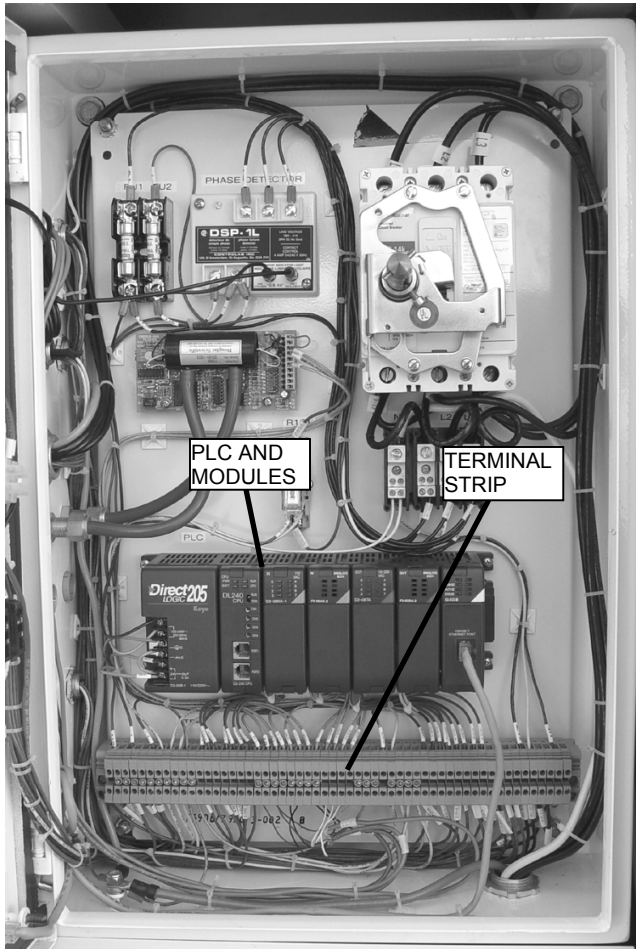
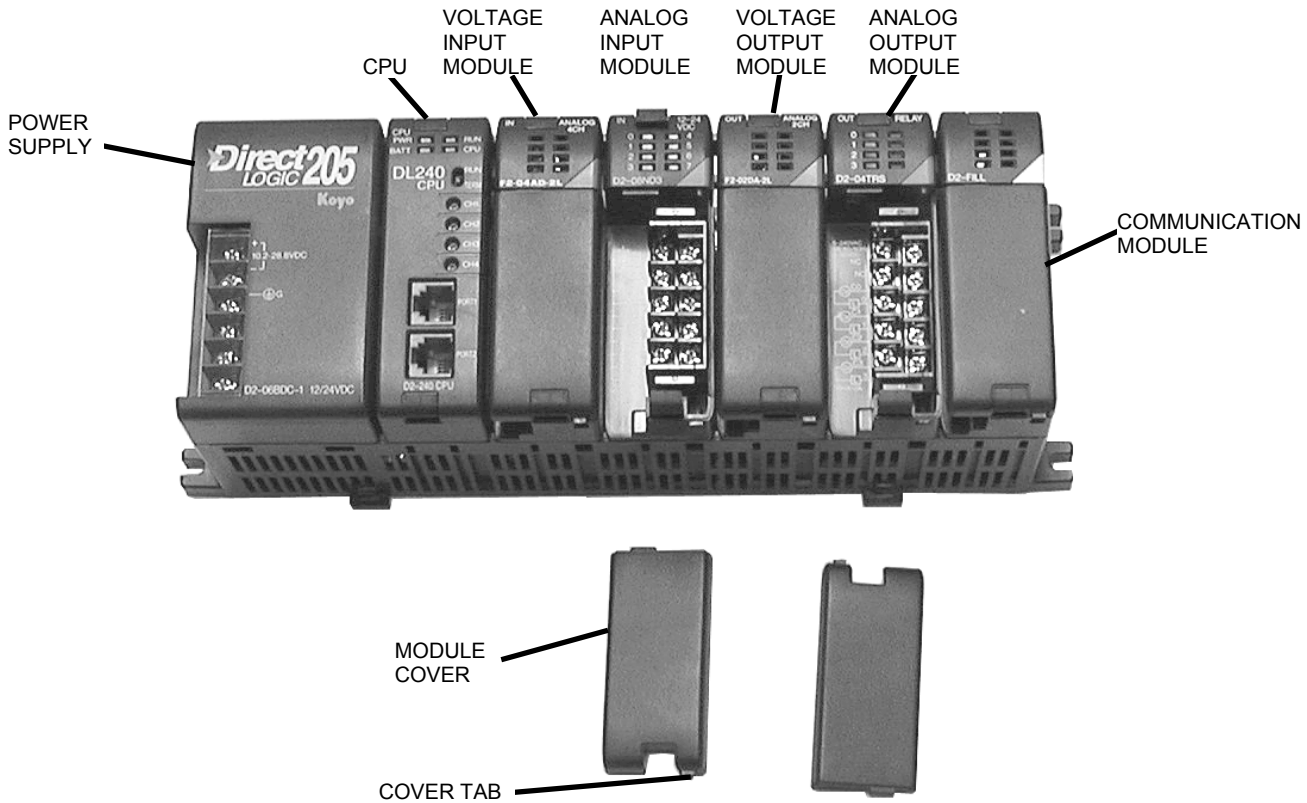
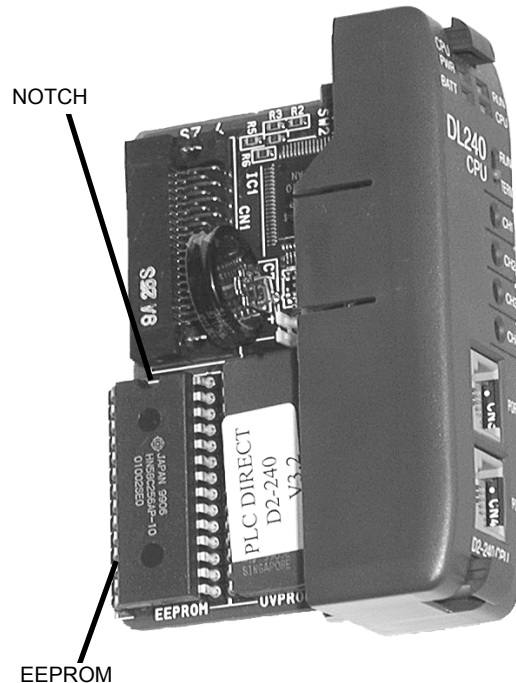

Figure 23. Electrical Control Box.
Figure 25. PLC and Modules.
Figure 26. CPU Module and EEPROM.
The adsorber vessel pressure transducer (XT-1) cannot be repaired. If it is found to be out of specification, it must be replaced. Use the following steps to check the operation and accuracy of the pressure transducer. Refer to Figure 23.
The buffer tank pressure transducer (XT-2) cannot be repaired. If it is found to be out of specification, it must be replaced. Use the following steps to check the operation and accuracy of the pressure transducer. Refer to Figure 23.
The scroll compressor outlet pressure transducer (XT-3) cannot be repaired. If it is found to be out of specification, it must be replaced. Use the following steps to check the operation and accuracy of the pressure transducer. Refer to Figure 23.
The PLC contains a power supply and several plug-in modules (see Figure 25). If the power supply or any of the plug-in modules fails to function properly they must be replaced. However, the voltage output module has replaceable fuses and the central processing unit (CPU) has a replaceable, programmed EEPROM (see Figure 26). The terminal blocks on the input and output modules are removable without disconnecting any wires and all of the modules are simply plugged into the power supply base. To get access to the PLC, the electrical control box door must be opened (see Figure23).
Follow the steps below to remove or replace any module. Refer to Figures 25 and 27 unless otherwise indicated.
- Carefully remove the EEPROM chip, taking care not to bend the pins on the chip (see Figure 26). Alternately pry it gently a small amount on each end until it can be grabbed with the fingers and pulled straight off the circuit board. A chip removal tool, available from any computer accessory store, makes it easy to remove and install the EEPROM chip.